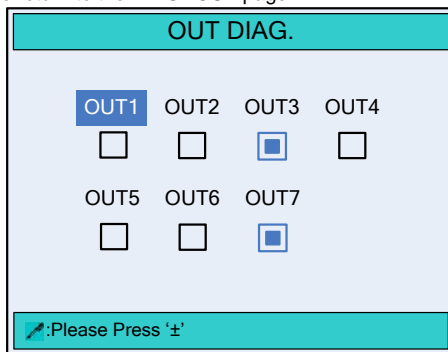

Figure 4-3 The **OUT DIAG.** page
On the **DIAGNOSE** page, move the cursor to parameter **2.OUT DIAG.** (or press the number key 2), and press  to enter the **OUT DIAG.** page, as shown in Figure 4-3.